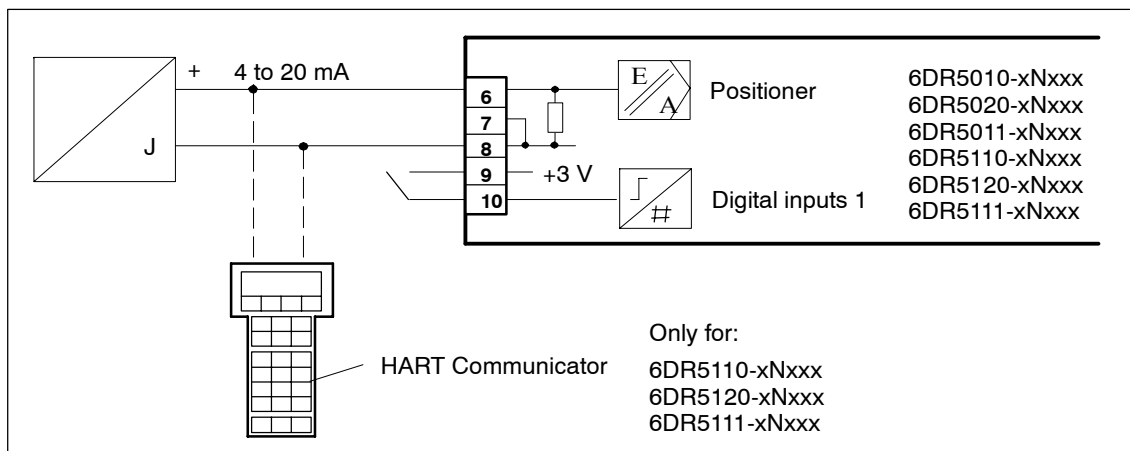
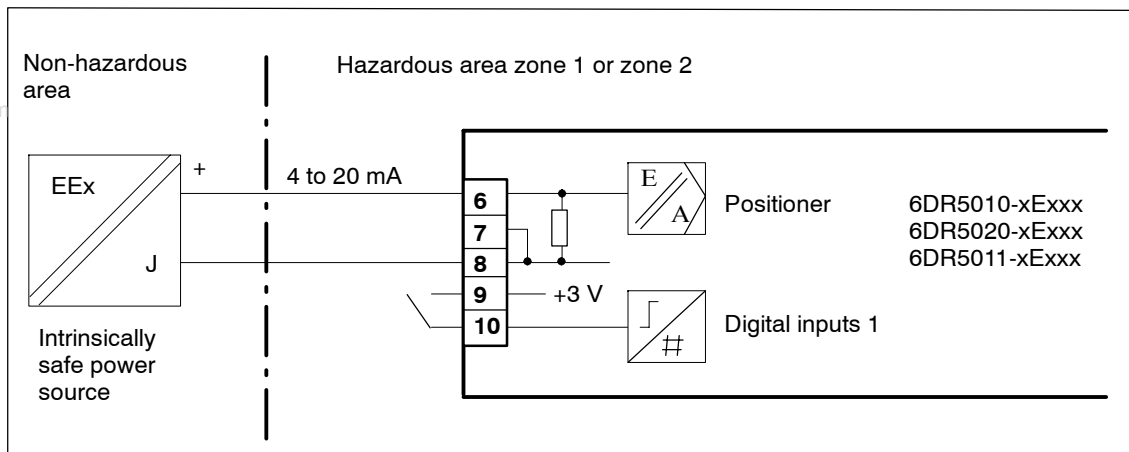

Figure 3-12 Two-wire connection **non Ex**
Figure 3-13 Two-wire connection standard controller 6DR50xx-xExxx (power supply from signal current)
4. Connect a suitable current or voltage source (see figure 3-12, page 49 and figure 3-13, page 50).
5. The positioner is now in the operating mode "**P-manual operation**". The current potentiometer voltage (P) is displayed in percent in the top line of the display, e.g.: "**P12.3**", and "**NOINI**" flashes in the bottom line: